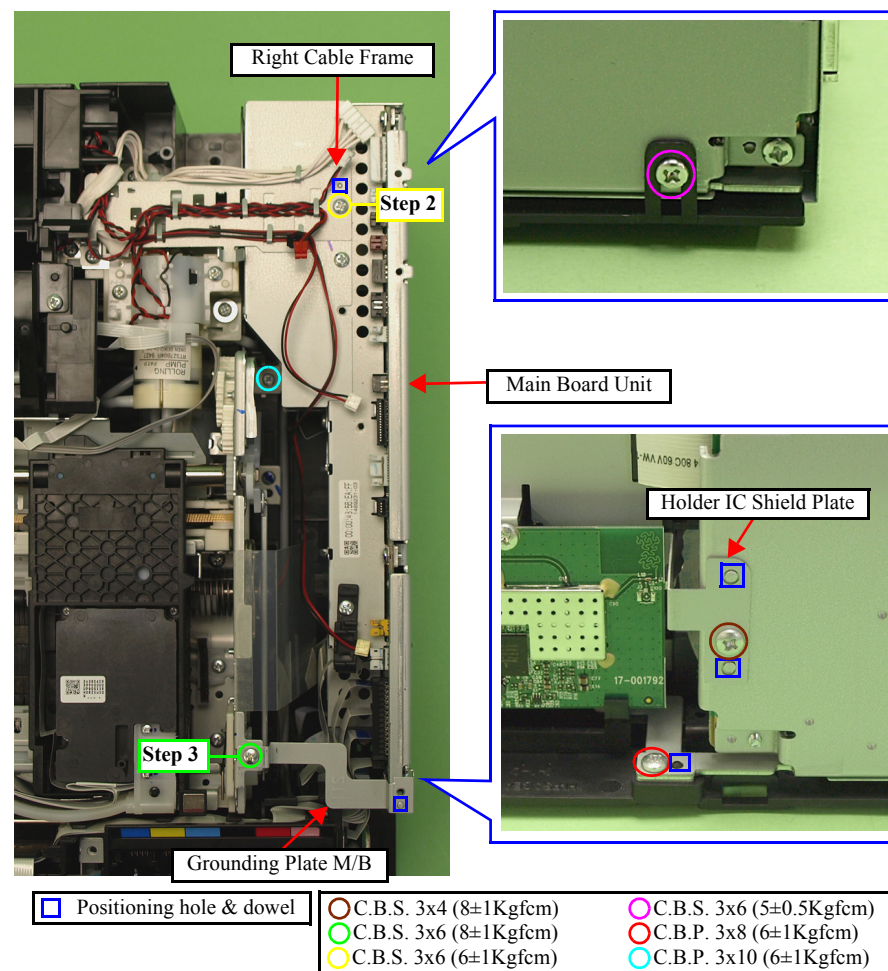
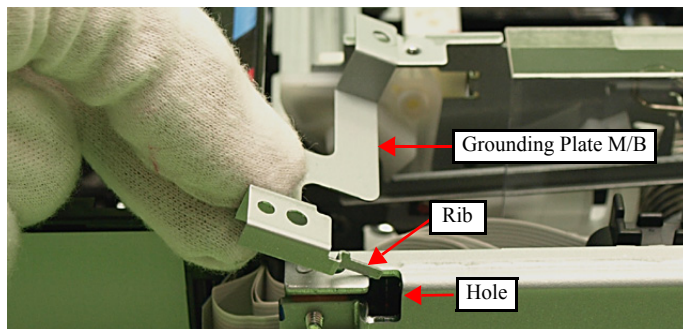

Figure 4-42. Removing the Main Board Unit
Figure 4-43. Attaching the Grounding Plate M/B
2. Remove the screw (x1) that secures the Right Cable Frame and the Main Board. (See Fig. 4-42.)
3. Remove the screw (x1) that secures the Grounding Plate M/B, and remove the Grounding Plate M/B. (See Fig. 4-42.)
- Align the positioning holes (x1) of the Main Board Unit with the dowels (x1) of the Base Frame. (See Fig. 4-42.)
- Align the dowels (x2) of the Main Board Unit with the positioning holes (x2) of the Holder IC Shield Plate. (See Fig. 4-42.)
- Align the dowel (x1) of the Main Board Unit with the positioning hole (x1) of the Right Cable Frame. (See Fig. 4-42.)
- Insert the rib (x1) of the Grounding Plate M/B to the hole of the Main Board Unit, and align the positioning hole (x1) of the Grounding Plate M/B with the dowel (x1) of the Main Board Unit, and then attach the Grounding Plate M/B. (See Fig. 4-42, Fig. 4-43.)